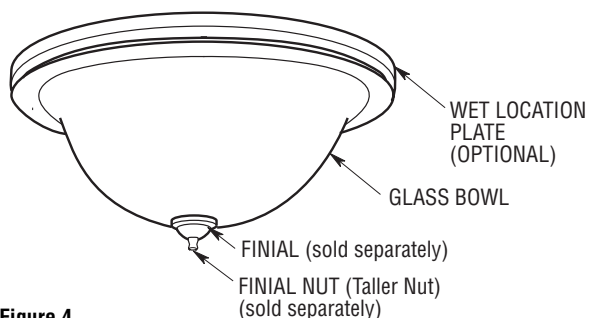

Figure 4
14. Gently place the glass bowl onto the light fixture (Figure 4). Then place the finial (sold separately) onto the threaded light fixture. Tighten the taller finial nut (supplied with finial) onto the threaded light fixture (Figure 4).